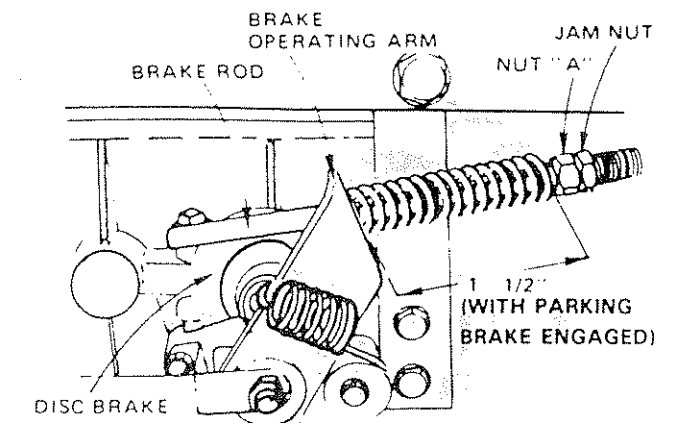

FIGURE 16
This Tractor is with an adjustable disc Brake mounted on the right side of the transaxle (Fig. 16).
- If distance is other than 1-1/2", loosen Jam Nut (Fig. 16) and turn Nut "A" until distance becomes 1-1/2". Retighten Jam Nut against Nut "A".